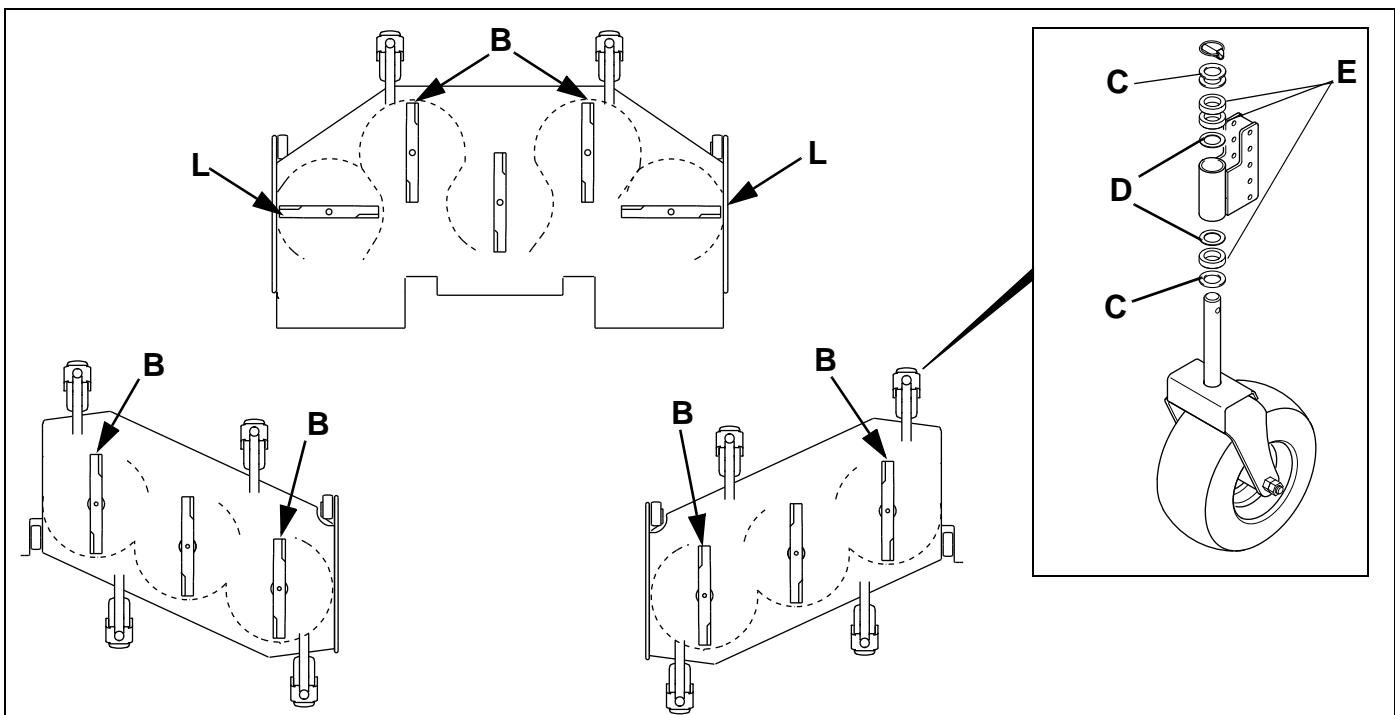

Figure 3A
2. Rotate front deck blades to positions shown in **Figure 3A**.
3. Measure the height from the ground to the front edge of the center front deck blade (B) and the outside edges of winglet blades (L). Add or remove shims (G) as required between pad (H) and support bracket of winglets, until all front deck blades are at the same height.
4. Store excess shims (G) above support bracket.
5. Adjust front winglet support arms (J) up or down as required until arm is resting against stop (K).